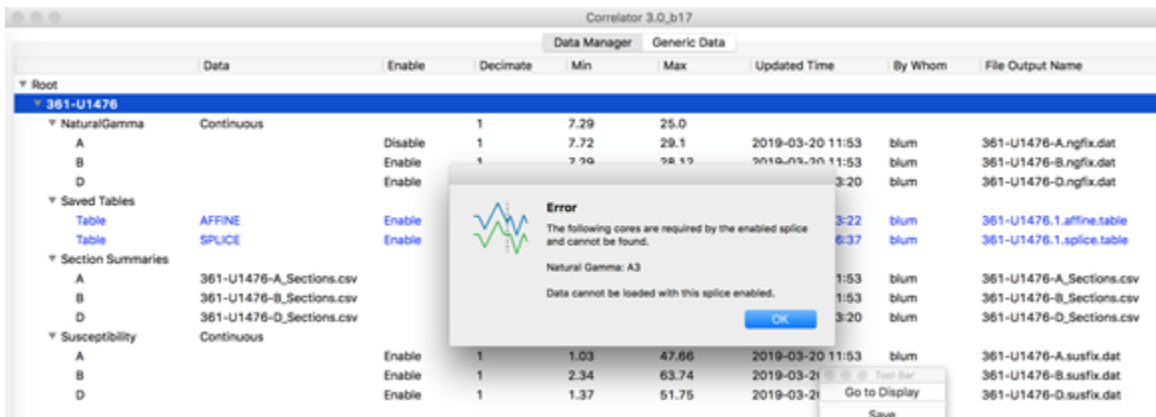

Figure 4-51. Message displayed when you are trying to load a splice and a data type used to make the splice is not enabled.
- Splice tables remember the data type used for each splice interval when the splice is created and saved. If all data types used in a splice are not enabled in the Data Manager, loading that splice will fail with the message in Fig. 4-51.